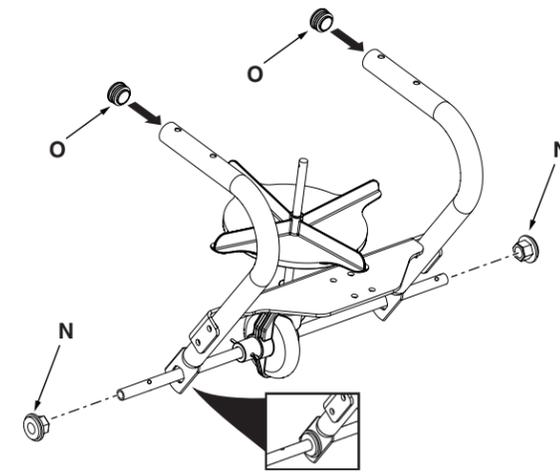

Figure 5
STEP 5: (SEE FIGURE 5)
- Install two plugs (O) into the frame and slide the flange bearings (N) onto the axle and secure in the frame.